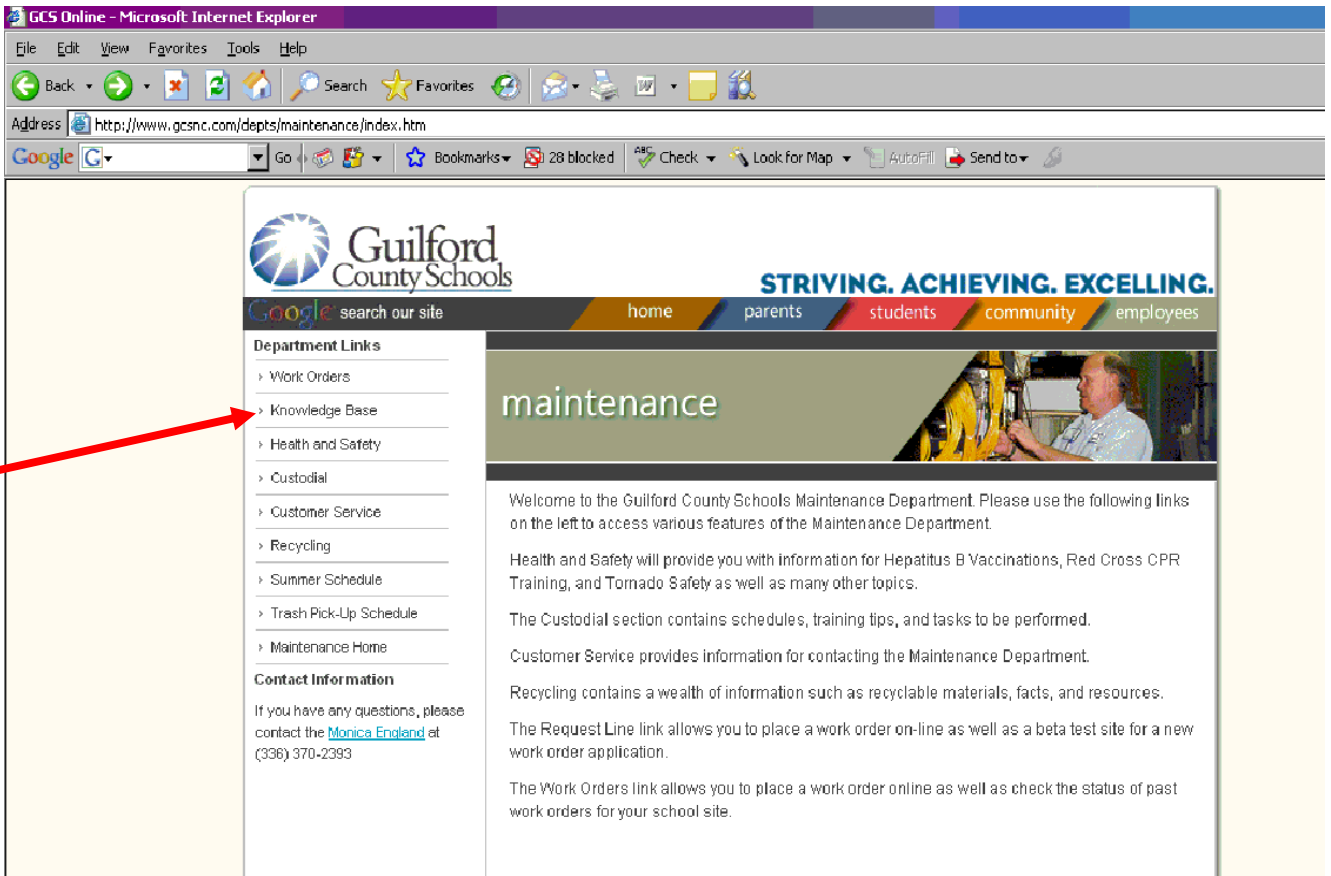

Figure 3 - Maintenance Home Page
- Click on the link, “**Knowledge Base.**” (See Figure 3.)